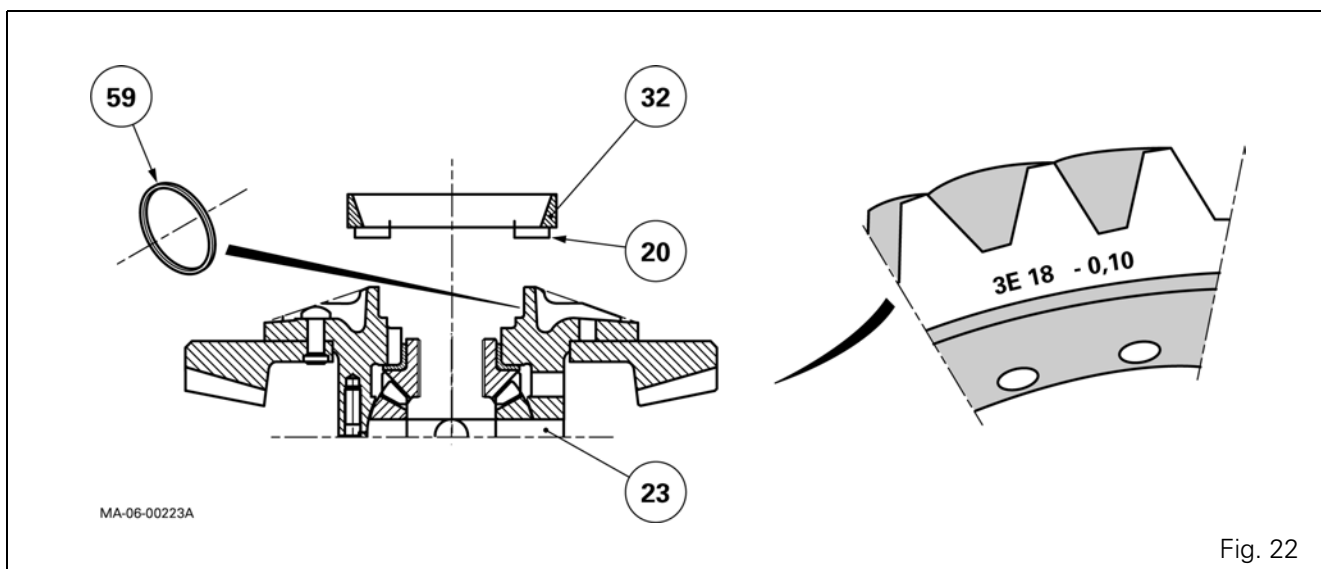

Fig. 22
NOTE: The DC (example: - 0.10) is engraved on the external surface of the ring gear (Fig. 22) after the number and pairing letter (3E18). It can be between 0 and - 0.60 mm.
IMPORTANT: When calculating E, ignore the negative sign preceding the DC (Fig. 22).
125. Fit the previously selected shim(s) (59) (Fig. 22) into the bore of the half-unit (23). Fit the oil deflector (20) and the bearing cup (32) (Fig. 22).